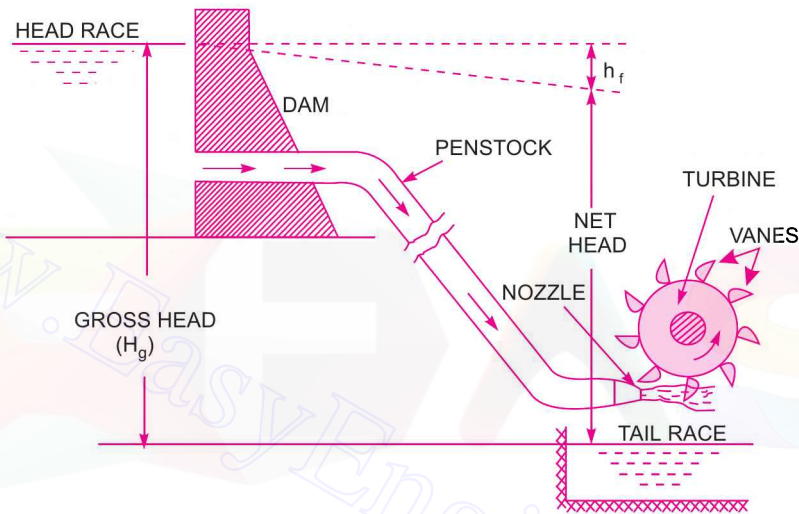

Fig. 18.1 Layout of a hydroelectric power plant.
Fig. 18.1 shows a general layout of a hydroelectric power plant which consists of :
**1. Gross Head.** The difference between the head race level and tail race level when no water is flowing is known as Gross Head. It is denoted by ' $H_g$ ' in Fig. 18.1.
Fig. 18.1 shows the layout of a hydroelectric power plant in which the turbine is Pelton wheel. The water from the reservoir flows through the penstocks at the outlet of which a nozzle is fitted. The nozzle increases the kinetic energy of the water flowing through the penstock. At the outlet of the nozzle, the water comes out in the form of a jet and strikes the buckets (vanes) of the runner. The main parts of the Pelton turbine are :